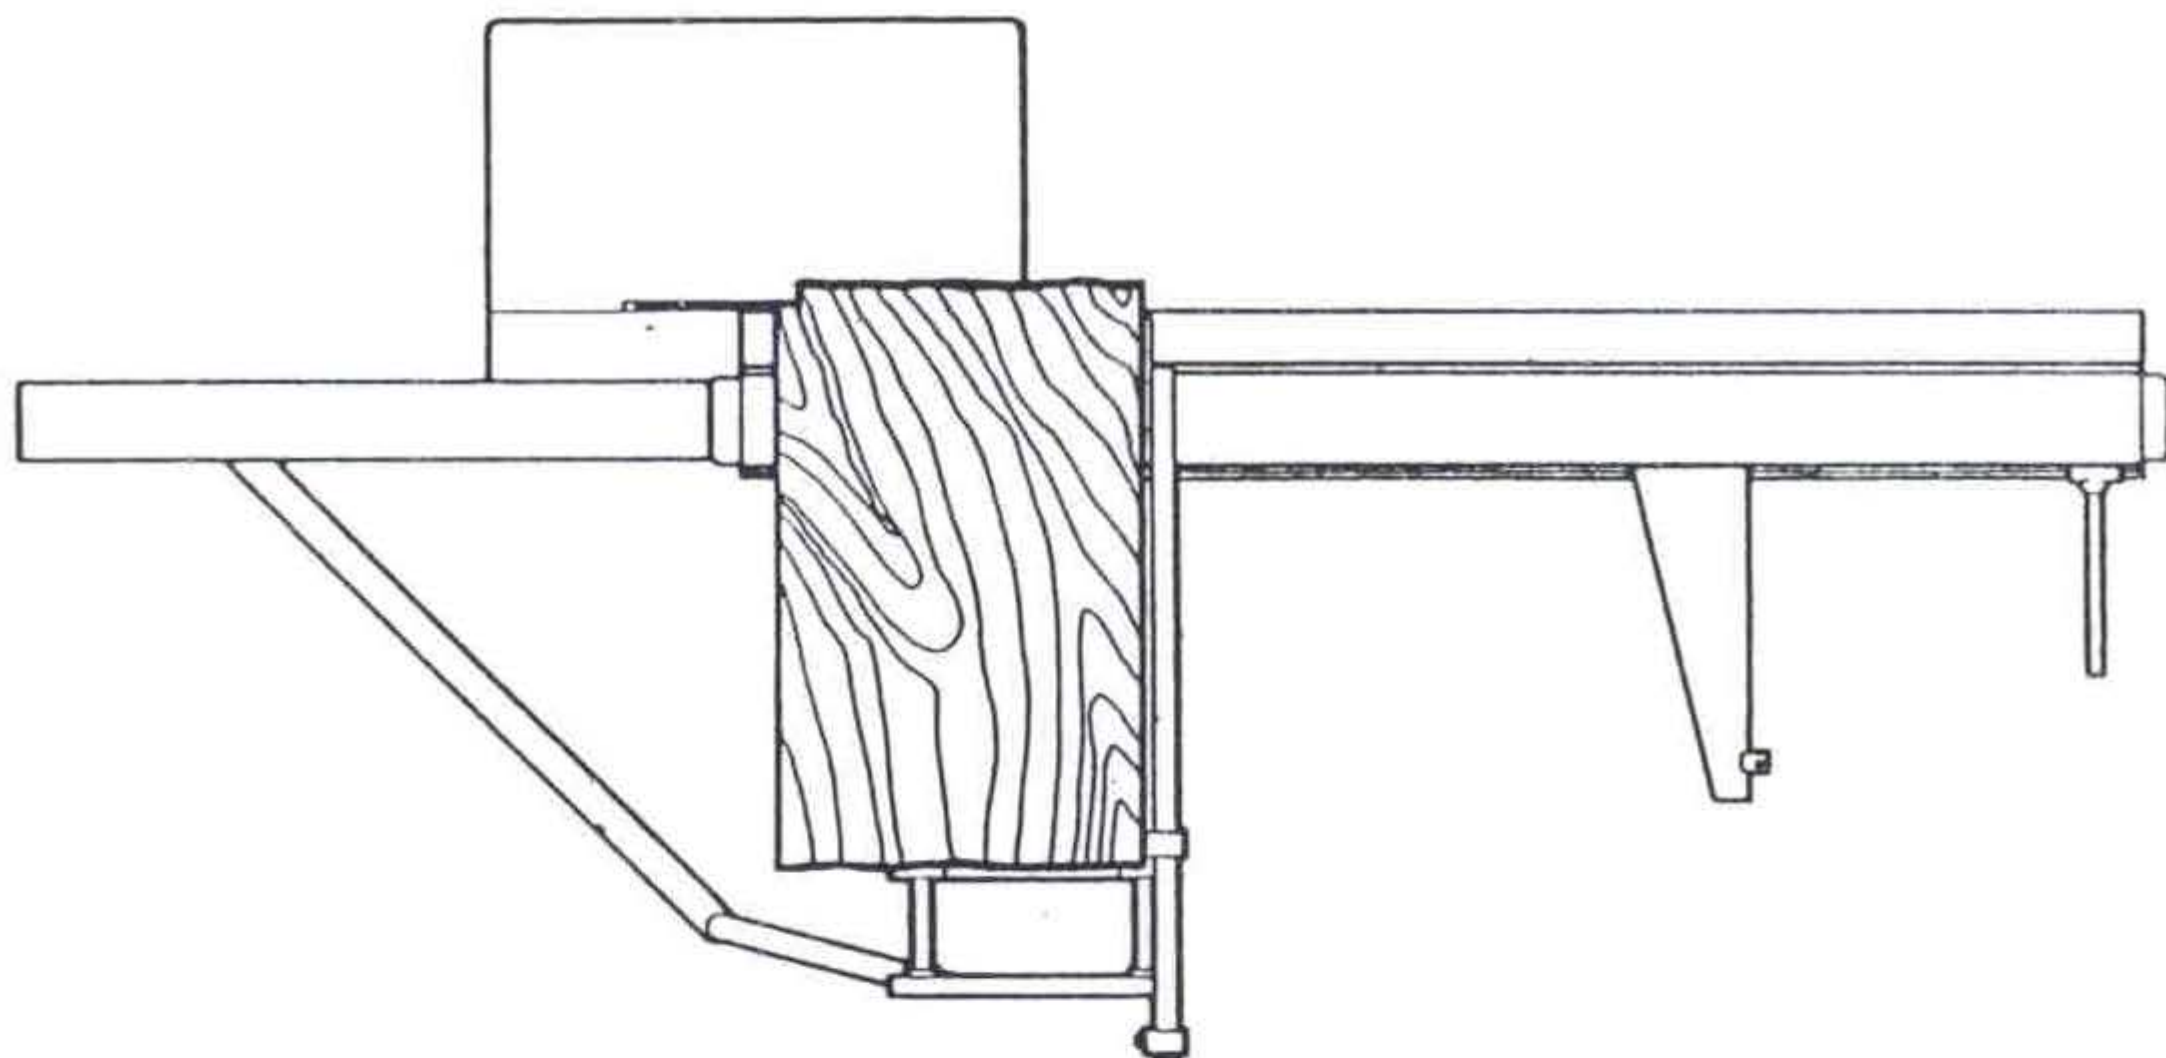

Fig. 27
- Finally, it is also possible to work with the rule that follows the workpiece (fig. 27) but in this case the crosscutting stroke is sensibly reduced.